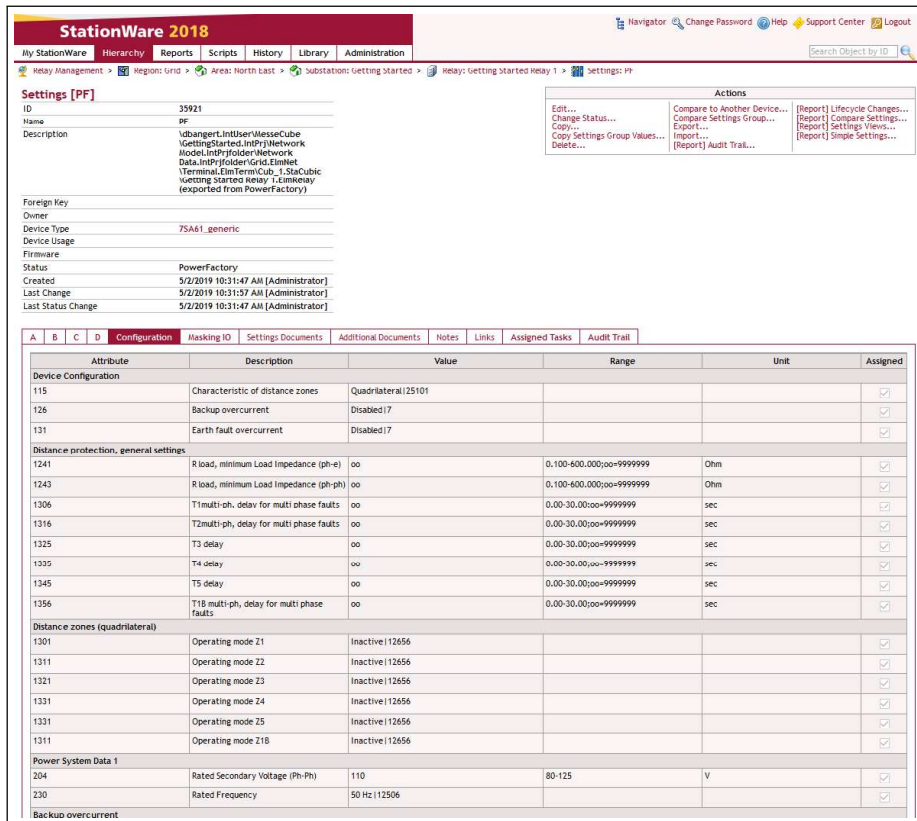

Figure 24.13.16: Setting detail page
- Switch to the settings detail page of the new *PowerFactory* setting (see Fig. 24.13.16).